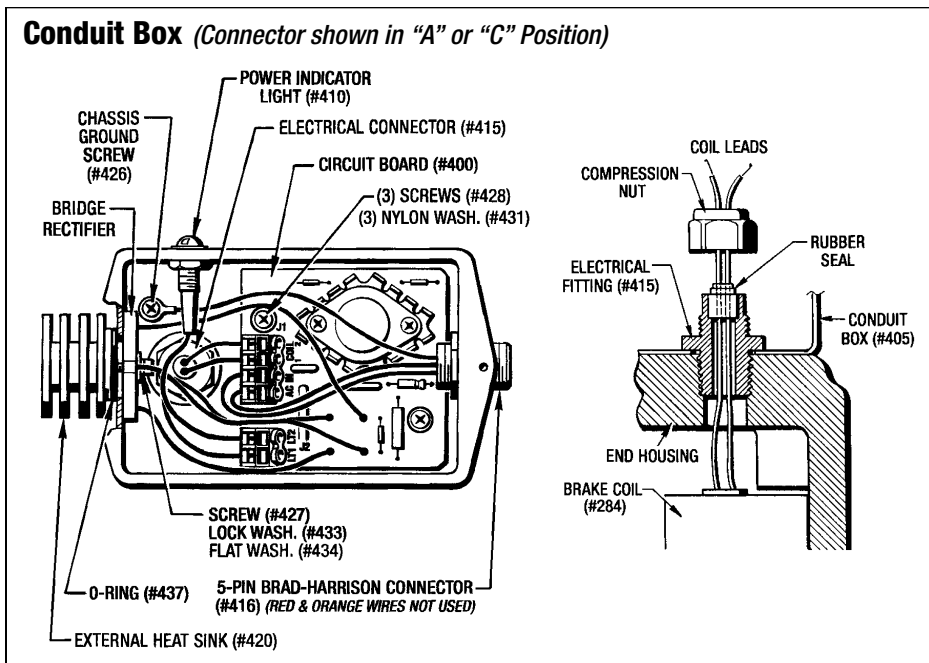

Figure 7.3 - Conduit Box with Cover Removed
(See Figure 7.3)
2. Disconnect all the wires from the (2) Terminal Strips J1 and J2 on the Circuit Board (#400).
4. Take the cover off of the Conduit Box (#405) and dis-connect the coil leads from J1 terminal strip located on the Circuit Board (#400). Also remove the compression nut from the Electrical Fitting (#415) and pry the rubber seal out of the fitting and off of the coil leads. (See Figure 7.3)
7. Place the rubber seal on the coil leads and pull the wires through, taking up all the slack in the wires. Seat the rubber seal into the threaded part of the Electrical Fitting (#415). Tighten down the compression nut. (See Figure 7.3 or 7.4)
8. Attach the coil leads to Terminal Strip J1 on the Circuit Board (#400) and replace the Conduit Box cover. (See Figure 7.3 or 7.4).